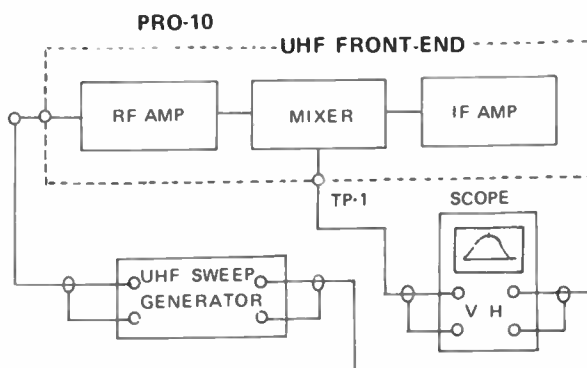

FIGURE 7. UHF FRONT-END ALIGNMENT TEST EQPT. HOOK-UP
- Step 1: Connect the UHF Sweep Generator and the Oscilloscope per Figure 7.